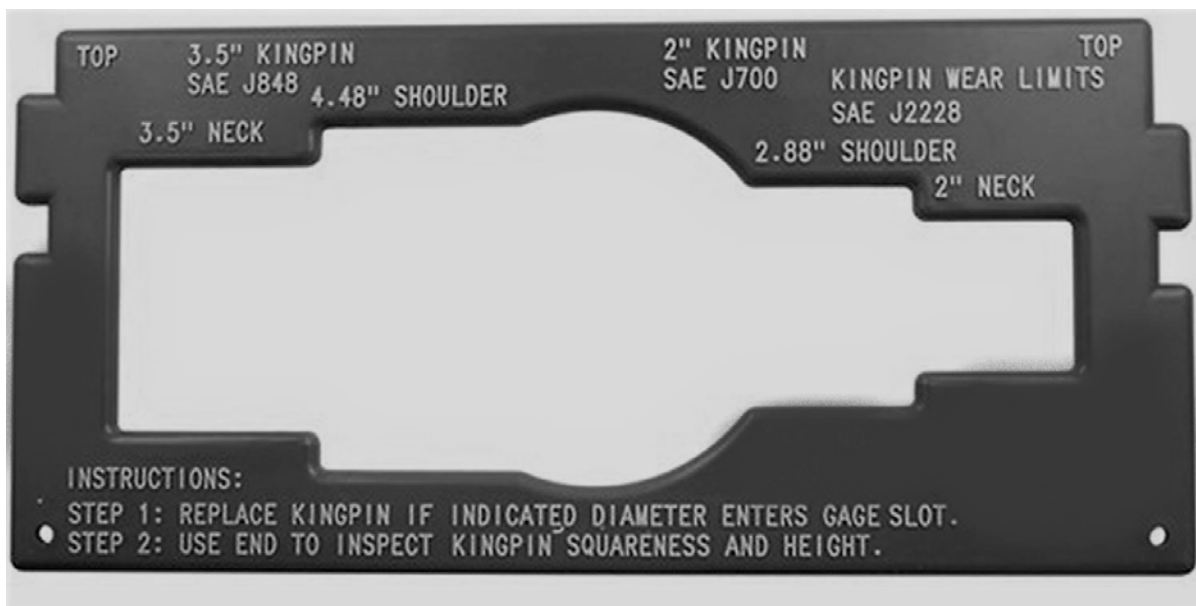

Figure 2-40. King Pin gauge.
- King Pin straightness—Using a T square or a King Pin gauge (fig. 2-40), check for a bent King Pin. If the King Pin varies even one degree from square in any direction the King Pin should be replaced.
- King Pin length—Using a King Pin gauge (fig. 2-40) check the length that the King Pin protrudes from the coupler plate. If pin length is not adequate, or if it is too long, replace the assembly.
- King Pin wear—Using a King Pin gauge (fig. 2-40) you can determine whether the King Pin is worn. Simply, if the pin can slide into the appropriate diameter slot, it is worn. You can also use a micrometer to accomplish this inspection; a worn pin will measure $\frac{1}{8}$ inch or more over the assigned diameter of the pin.